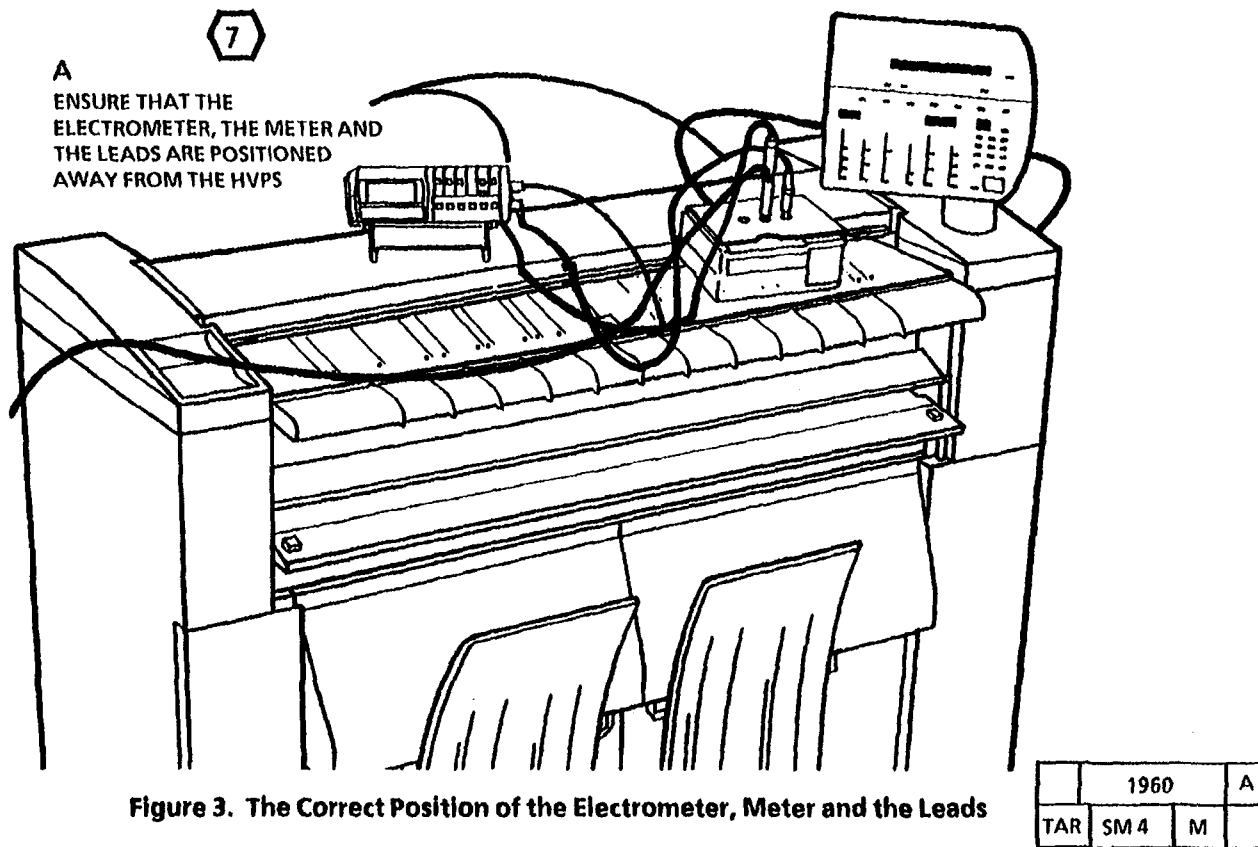

Figure 3. The Correct Position of the Electrometer, Meter and the Leads
8. (Figure 3): The correct position of the electrometer, meter and the leads.
**STEP 8 A:** The electrometer, meter and the leads must be positioned away from the HVPS in order to obtain the correct voltage measurement. The meter and electrometer must also be separated as shown in Figure 3. Position the electrometer, meter, and the leads in this way for the remainder of the procedure. Do not connect the meter and the electrometer at this time. The purpose of this illustration is to show the correct position. Attach the components as needed in subsequent steps.
9 The Electrometer, meter, and the leads are shown in this position only for clarity. Figure 3 of this procedure shows the correct position when the Electrostatic Series is performed.
11 The Electrometer, meter, and the leads are shown in this position only for clarity. Figure 3 of this procedure shows the correct position when the Electrostatic Series is performed.
13 The Electrometer, meter, and the leads are shown in this position only for clarity. Figure 3 of this procedure shows the correct position when the Electrostatic Series is performed.
Position the DMM and the Electrometer as shown in Step 7, Figure 3. Ensure that the doors are closed.
- Electrometer to meter leads are in the correct position (refer to Figure 3)
- Ensure that the (2) sheets of white paper are on the entire surface of the platen.